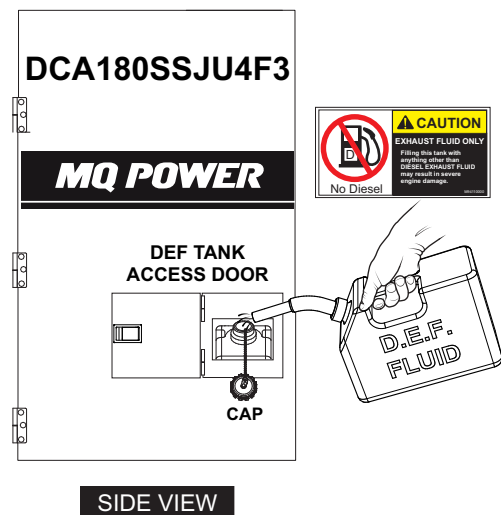

Figure 44. DEF Tank Filling (DCA180SSJU4F3)
3. For DCA180SSJU4F3 generators, open the **DEF access door** (Figure 44), remove the filler cap, and fill with DEF fluid.